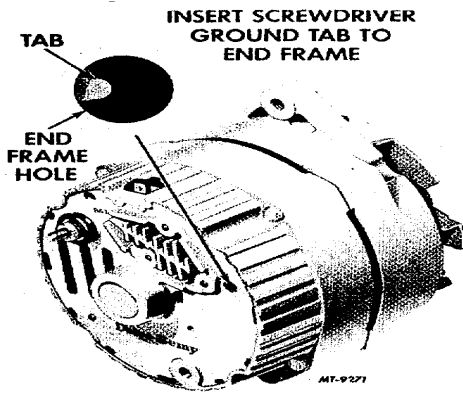

Fig. 4 Grounding Alternator Field Winding
- g. If ampere output is not within 10 amperes of rated output, ground the field winding by inserting a screwdriver into the test hole, Fig. 4. NOTE: Tab is within 3/4" of casting surface. Do not force screwdriver deeper than 1" into end frame.